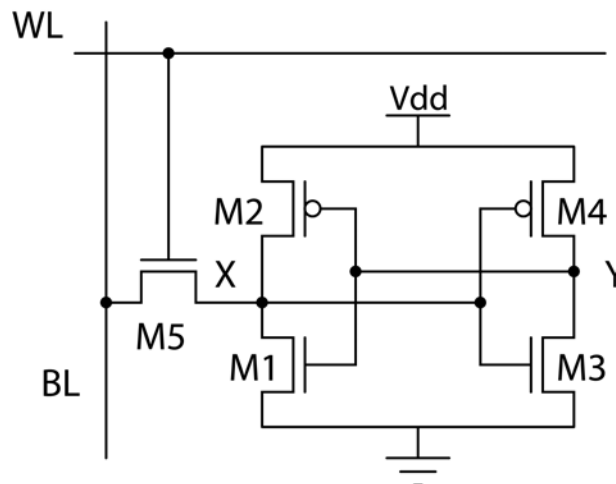

Figure 12.1. Five-transistor SRAM cell.
12.2) A 5-transistor SRAM cell is shown in Fig. 12.1. The bit line is precharged to V_{dd} before reading. The power supply voltage is 2.5 V and the channel length is 0.25 μm for all transistors.